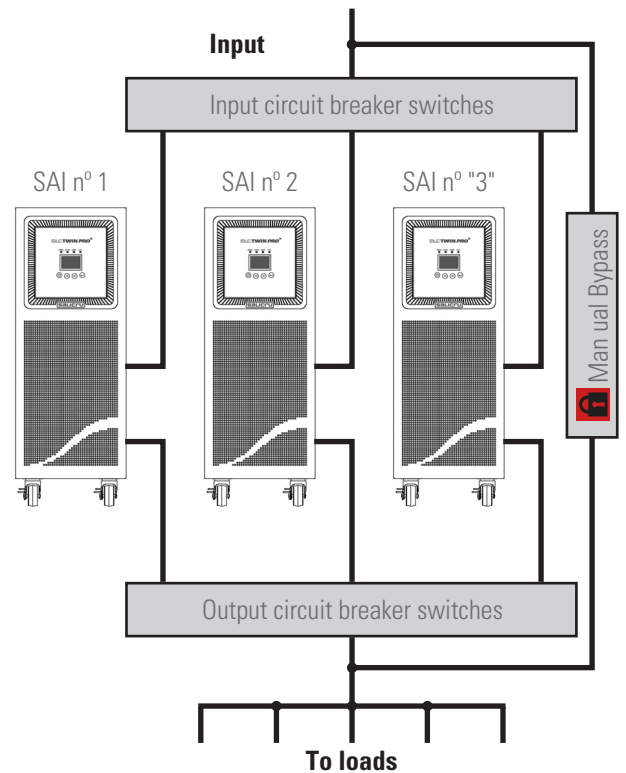

Fig. 23. Parallel UPS installation with a switchgear panel
- Parallel installations must have a switchgear panel with separate input and output protections for each UPS, apart from a manual bypass switch with mechanical lock, see Fig. 23. For more information, about the descriptions referred to the manual bypass and the indications of the «Recommended installation» see section 5.1.5.4.
- Fig. 23 shows a conceptual switchgear panel with manual bypass for a parallel system, which illustrates only one equipment by adapting the quantity of switches.